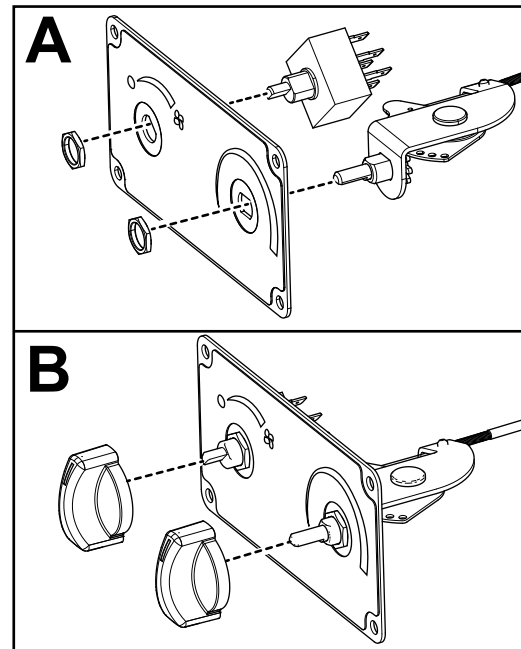

Figure 5
4. Install the 2 switches onto the control panel with 2 switch nuts (7/16 inch) as shown in A of Figure 5.
5. Install a knob over each switch (B of Figure 5).